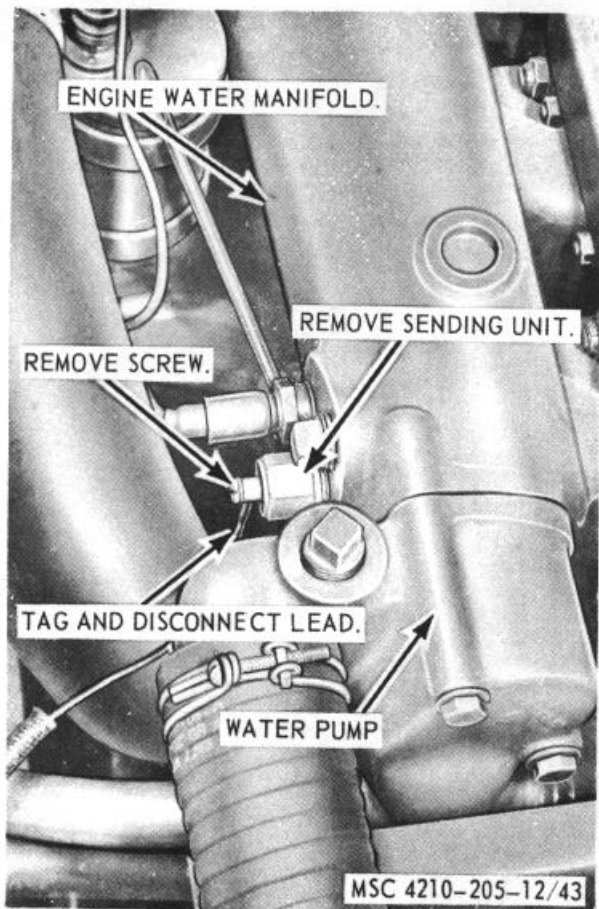

Figure 43. Engine temperature sending unit, removal and installation.
a. *Removal.* Refer to figure 43, and remove the engine temperature sending unit form the engine
- (1) Clean all parts with a clean cloth dampened in a n approved cleaning solvent, and dry thoroughly.
- (2) Inspect all parts for damaged or defective condition.
- (3) Replace or repair damaged or defective parts as necessary.
c. *Installation.* Refer to figure 43, and install the engine temperature sending unit on the engine.